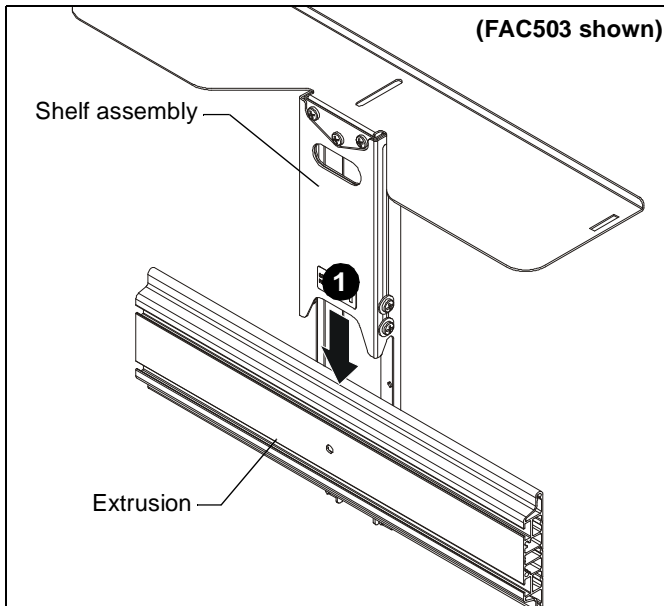

Figure 2
1. Lower shelf assembly onto mount extrusion, placing shelf assembly hooks over extrusion. (See Figure 2)